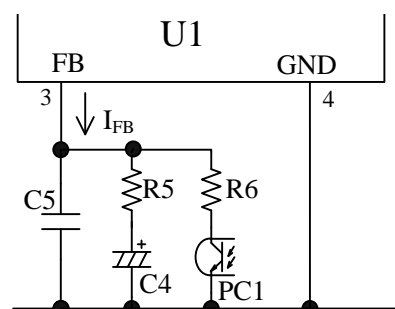
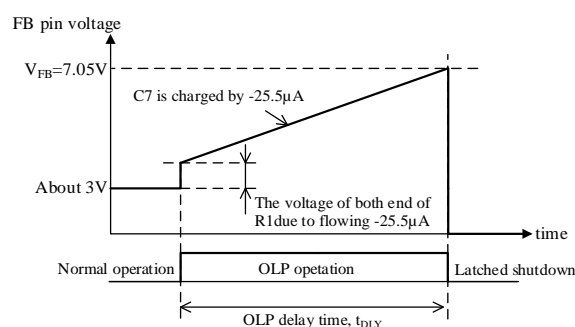

Figure 8-29. FB Pin Peripheral Circuit
Figure 8-30. OLP Operation
Figure 8-29 shows the FB pin peripheral circuit, Figure 8-30 shows the FB pin waveform at Overload Protection (OLP) operation.
Given the time that until the FB pin voltage reaches to  $V_{FB}$  as the OLP delay time,  $t_{DLY}$  (refer to Figure 8-30).  $t_{DLY}$  is calculated Equation (18).